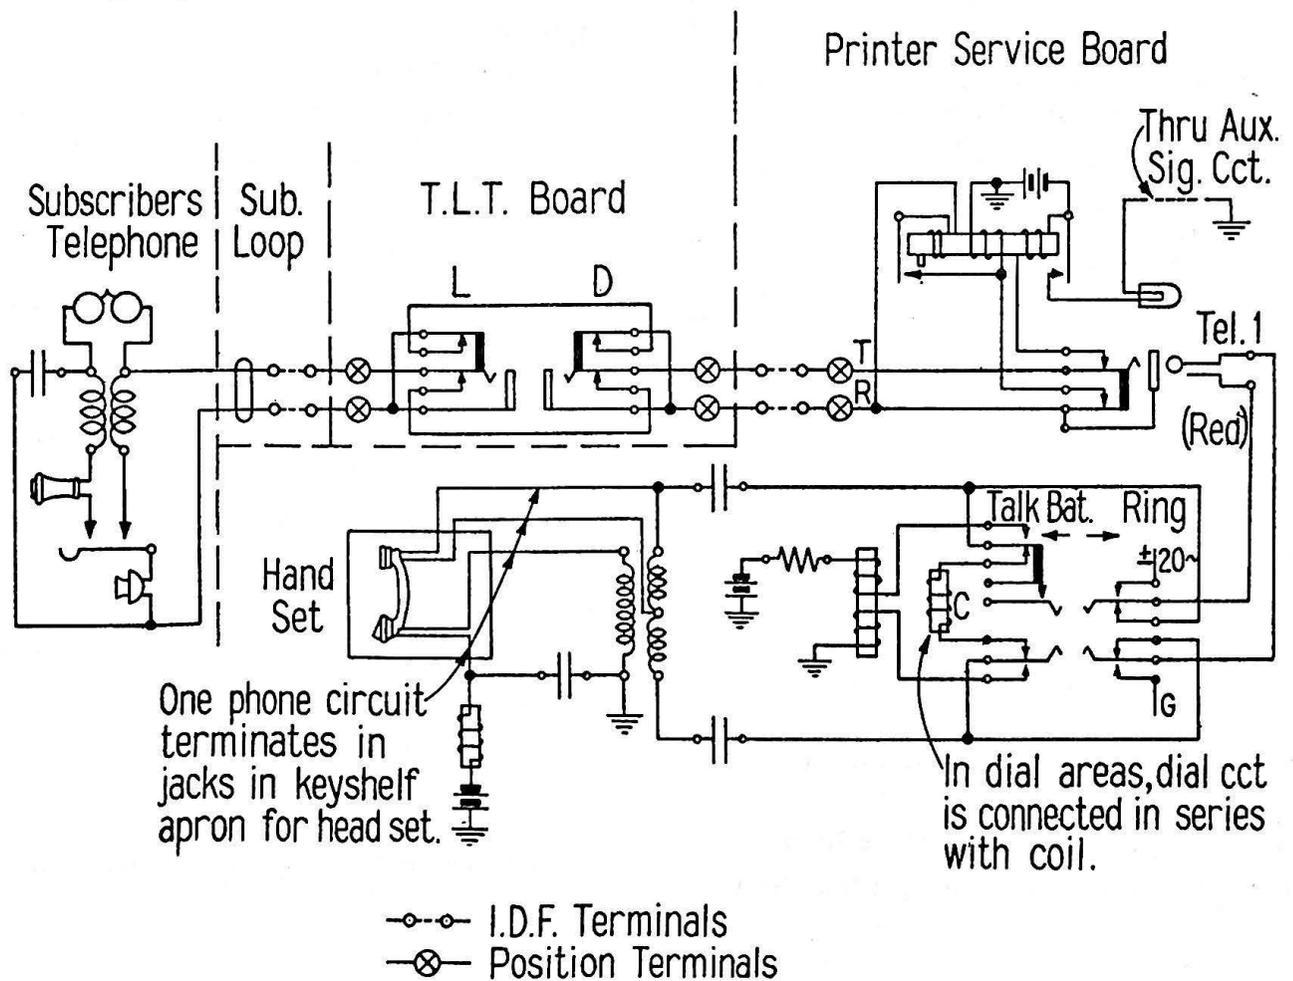

Fig. 6.—Schematic circuit of Service Telephone including operator's set.
3.06 Figure 6 shows a schematic of the circuit arrangement including the jacks at the Telegraph Loop Terminal Board, the termination of the loop at the Printer Service position, the operator's telephone circuit and the subscriber's telephone. As noted on the schematic, in dial areas the dial and associated relays are connected in series with the coil "C." Two of the telephone circuits are connected to hand sets, as shown in the schematic sketch, while the third is connected to jacks in the keyshelf apron—for use with operator's telephone set.
- 3.08 The circuit arrangement is that already referred to and shown in Figure 6.